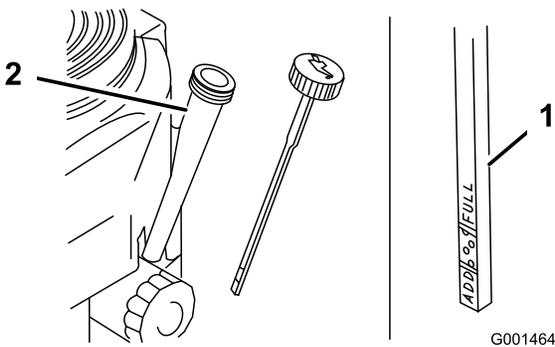

Figure 26
4. Clean around the oil dipstick (Figure 26) so that dirt cannot fall into the filler hole and damage the engine.
5. Unscrew the oil dipstick and wipe the end clean (Figure 26).
6. Slide the oil dipstick fully into the filler tube, but do not thread onto tube (Figure 26).
8. Slowly pour approximately 80% of the specified oil into the filler tube (Figure 26).